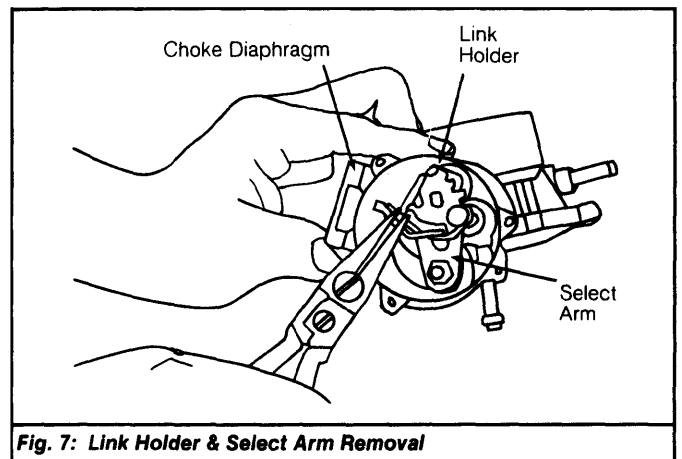

Fig. 7: Link Holder & Select Arm Removal
- 5) Remove link holder from choke diaphragm rod and remove choke diaphragm. See Fig. 7. Remove nut retaining select lever and disconnect select lever and select arm.